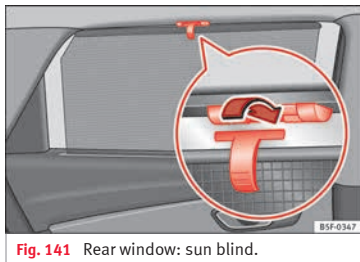

Fig. 141 Rear window: sun blind.
- Pull out the visor and hook it into the hooks in the centre of the top of the door frame »» Fig. 141.